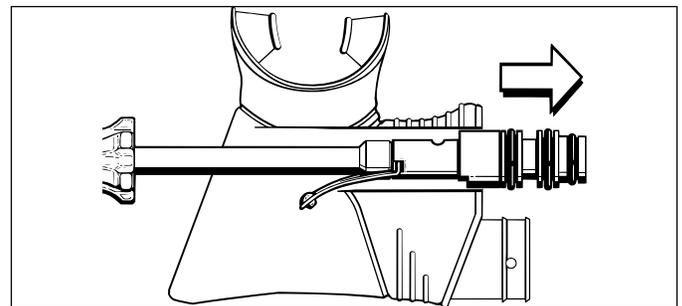

Figure 3
1.1.8 While holding the body secure, place a ¼" nut driver over the lock nut(44) of the valve poppet, and slowly press inward until the valve begins to exit the opposite end of the body (see Fig. 3). Be careful to avoid pressing it completely out.